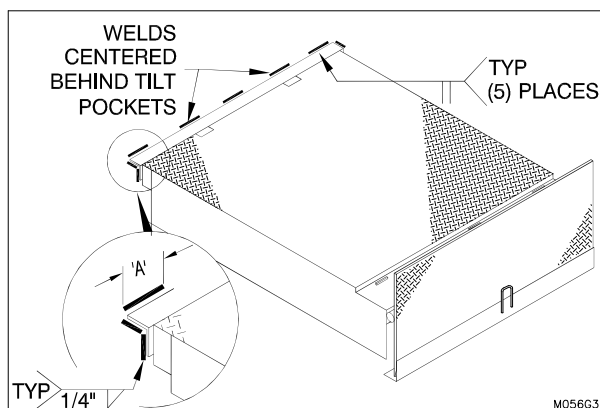

Figure 18: Hydraulic Dock Roll-Off Stop Back Angle Weld of Dock Leveler
5. ☐ Weld back angle of dock leveler to rear curb angle as shown in "Figure 18: Hydraulic Dock Roll-Off Stop Back Angle Weld of Dock Leveler" on page 13 using the welding reference and notes on page 26 as a guide.